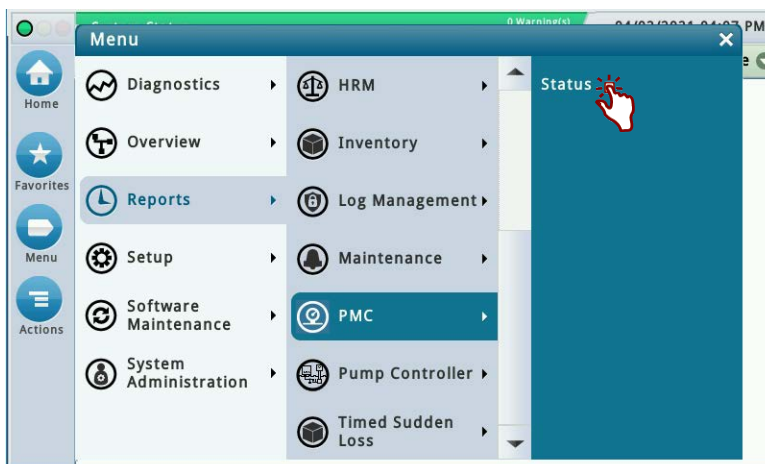
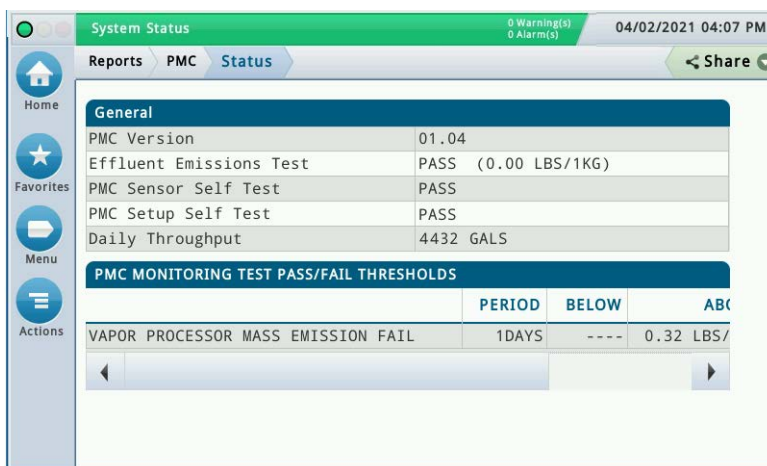

Figure 23. Accessing PMC Report
Figure 24. PMC Status Report Example
1. You can access and view the PMC Status report from the TLS console front panel by selecting **Menu>Reports>PMC>Status** (see Figure 23 and Figure 24).